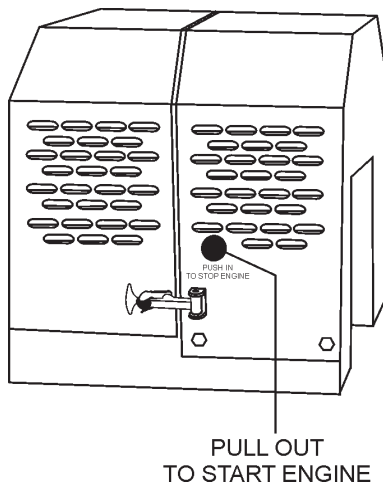

Figure 15. Start/Stop Switch (gasoline engine)
- The main **start/stop** switch located on the engine cover is (Figure 15) is used to start and stop the engine. Pull this switch outward to start the engine.
2. Push the main **start/stop** switch (Figure 15) inward to stop the engine.